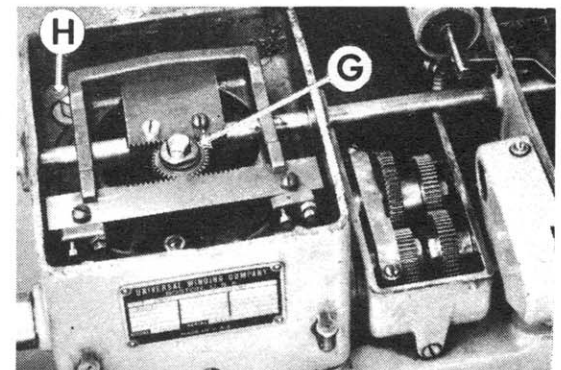

Fig. 3. With screw (E in Fig. 2) removed and pinion (G) in place, traverse length can be varied from 1-1/2 in. to 2-13/16 in.
The cam accelerates a slide in the milled opening (D) that extends diagonally across a circular adjuster. This slide, in turn, imparts motion to the traverse bar driver (arrows in Fig. 2). This driver is connected to the traverse bar by the screw (E) or to the pinion (G in Fig. 3), depending on the length of wire layer desired.
However, for longer lengths, the tapped boss (F) in the traverse bar driver can be used for inserting the pinion (G) shown in Fig. 3. This meshes with two pinion racks. One rack is held stationary by two brackets in the gainer case; the other is attached to the traverse bar.